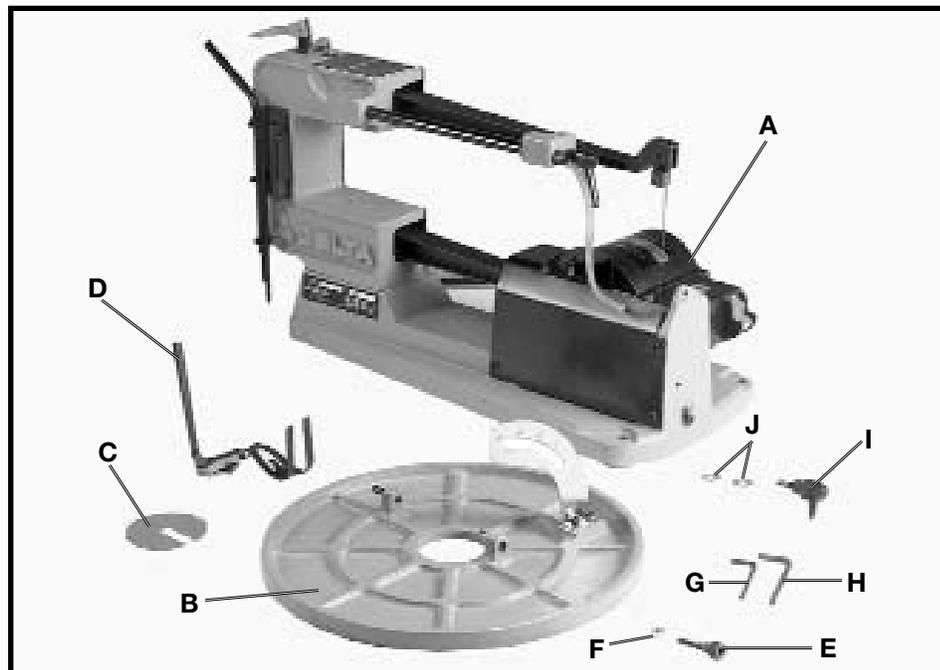

Fig. 4
Your new scroll saw is shipped complete in one carton. Carefully unpack the saw and all loose items from the shipping container. Figure 4 illustrates the scroll saw (A) and all loose items supplied with your machine. After assembly remove the protective coating from the saw table surface. This coating may be removed with a soft cloth moistened with kerosene (do not use acetone, gasoline or lacquer thinner for this purpose). After cleaning, it is good practice to cover the table surface with a good quality paste wax. Buff out the wax thoroughly to prevent it from rubbing into your workpiece.